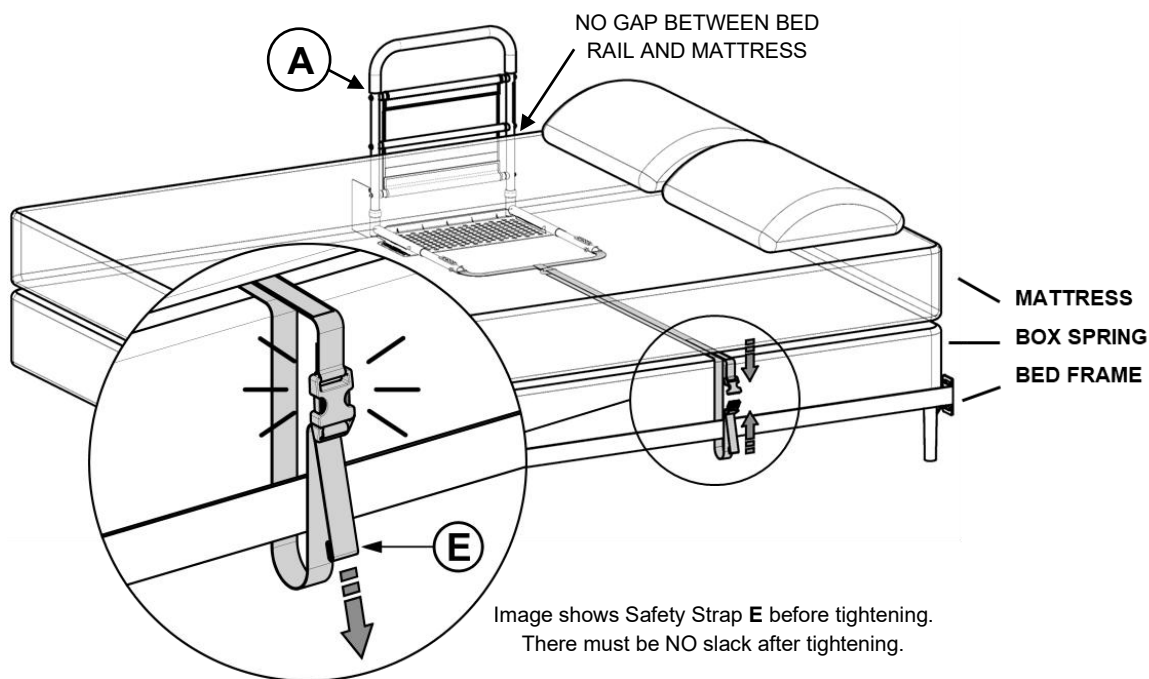

FIGURE 5
- Place base of product directly under the Mattress and extend the Safety Strap **E** below the Mattress to the opposite side of the Bed. Unbuckle Strap, loop around Bed Frame, re-buckle and tighten the Safety Strap to secure the Bed Rail against the side of the Mattress as shown in *FIGURE 5*. Ensure the Bed Rail is tight against the Mattress without gaps and the Safety Strap has no slack.